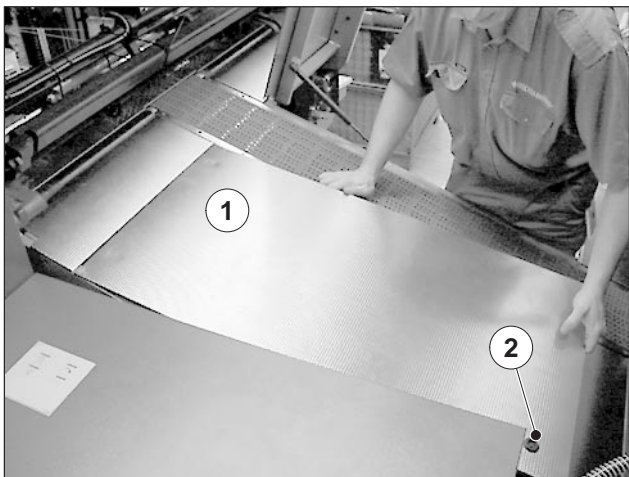

Fig. 80
1. Open the sheet guide plate locking device (Fig. 80/2) with the matching key.
2. Raise the sheet guide plate (Fig. 80/1) and remove it from the feeder. Store the sheet guide plate at a protected place.